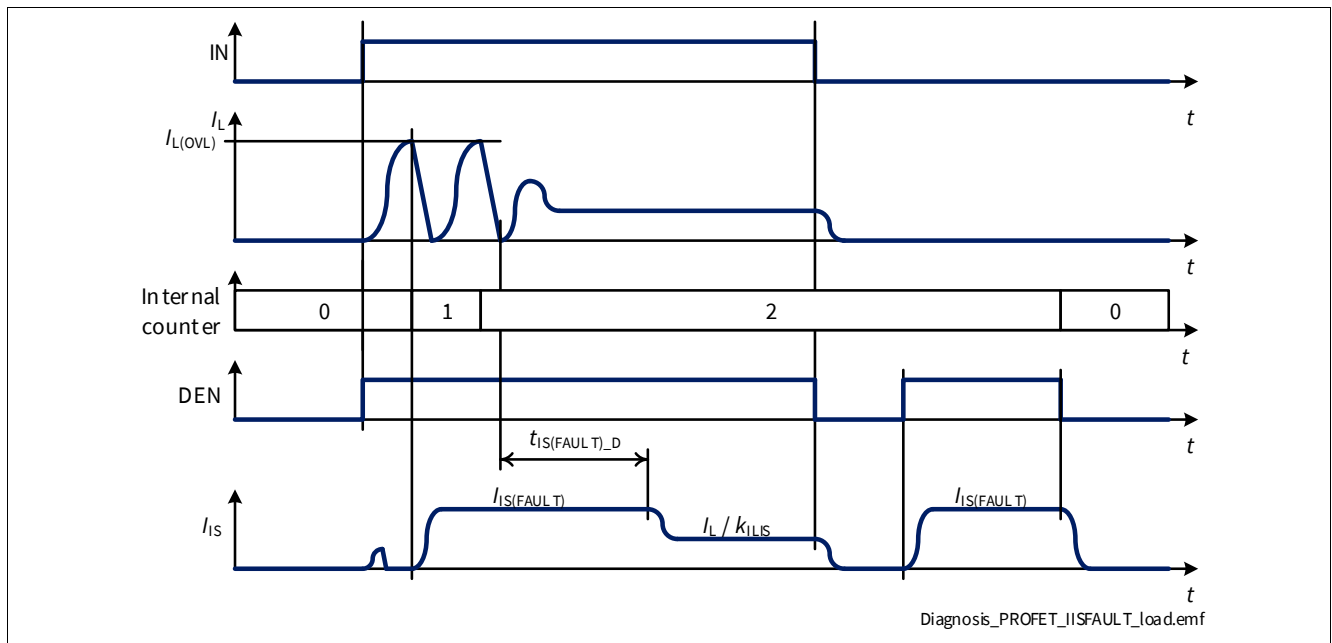

Figure 34 $I_{IS(FAULT)}$ at Load Switching
- If the channel is ON and the number of retries is lower than “ $n_{RETRY(CR)} + n_{RETRY(CYC)} * n_{RETRY(NT)}$ ”, the current $I_{IS(FAULT)}$ is provided for a time $t_{IS(FAULT)_D}$ after the channel is allowed to restart, after which $I_{IS} = I_L / k_{ILIS}$ (as shown in Figure 34). During a retry cycle (while timer t_{RETRY} is running) the current $I_{IS(FAULT)}$ is provided each time the channel diagnosis is checked
| SENSE Delay Time at Channel Switch ON after Last Fault Condition | $t_{IS(FAULT)_D}$ | – | 500 | – | μs | ¹⁾ See Figure 34 | P_9.6.1.3 |